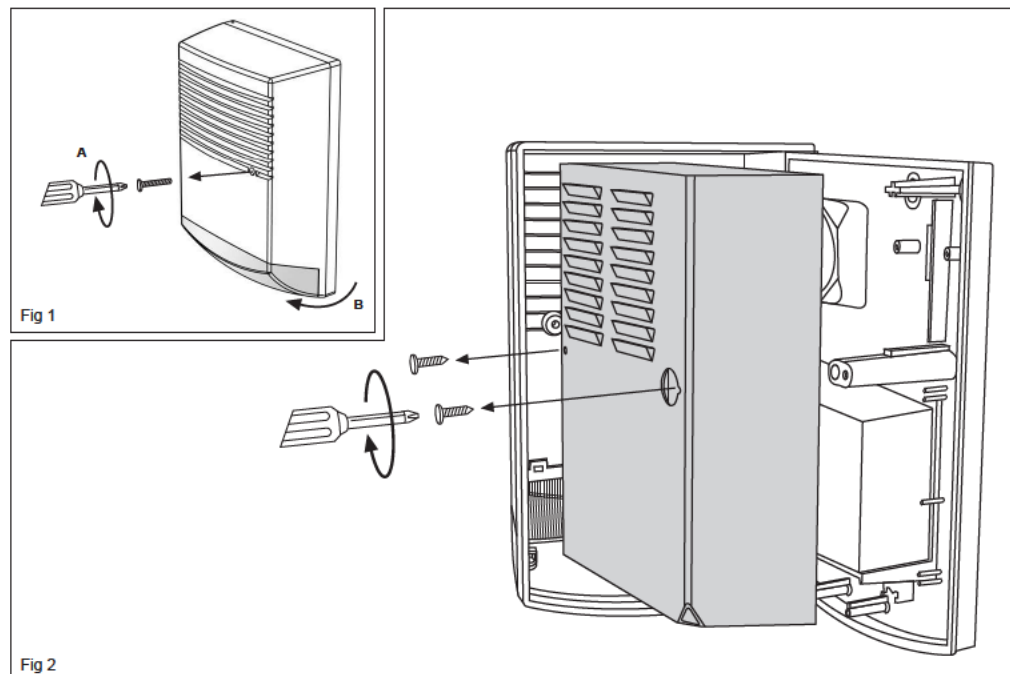

Fig 2
3. Open the siren housing (1 screw on the front),fig 1 and remove the metal cover (2 screws),fig2.
4. Unplug the terminal(5) on the siren driver